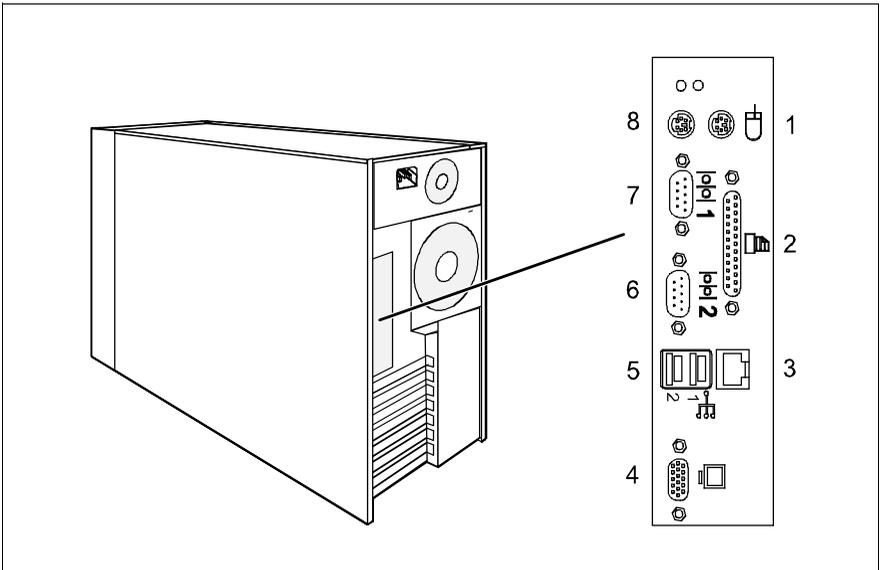
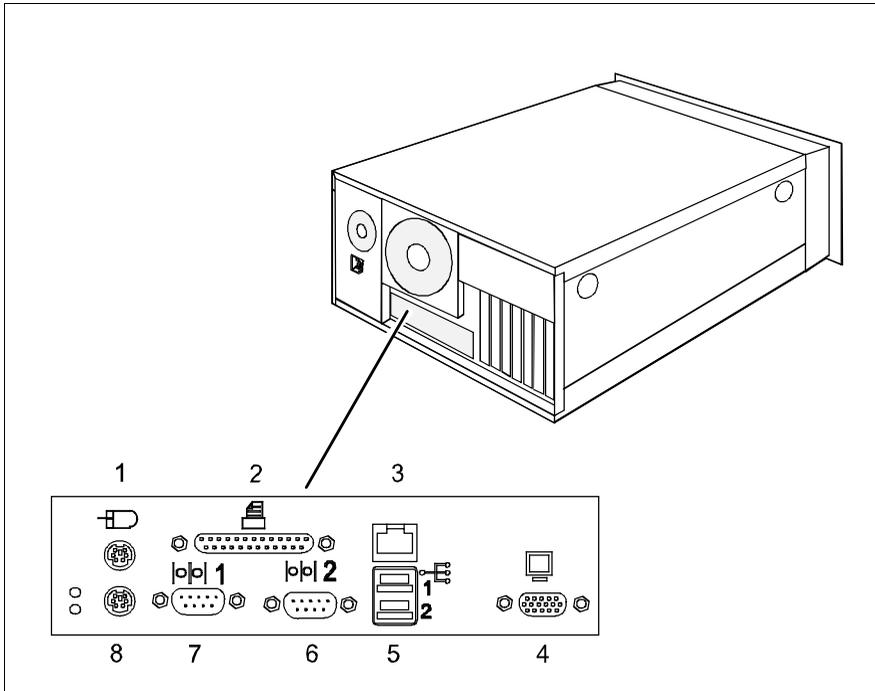

Figure 22: Floorstand model: ports
Figure 23: Rack model: ports
The standard ports (figure 22) are marked with symbols, and some are color-coded.
- ▶ Connect the monitor, the keyboard and mouse to the standard ports of the server (see figure 22 on page 47 and figure 23 on page 48).